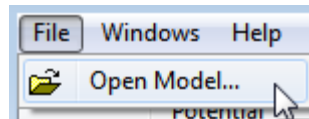

Fig. 3-1 Opening a model
- 1 Select **File** on the **Menu bar** and then **Open Model...** as shown in Fig. 3-1.